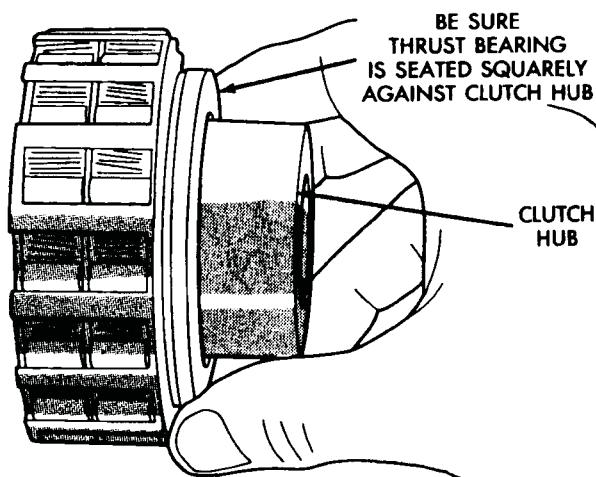

Fig. 49 Overrunning Clutch Thrust Bearing Installation
(10) Install thrust bearing on overrunning clutch hub (Fig. 49). Use petroleum jelly to hold bearing in place during installation. Bearing fits one way only. Be sure bearing is seated squarely against hub. Reposition bearing if it does not seat squarely.